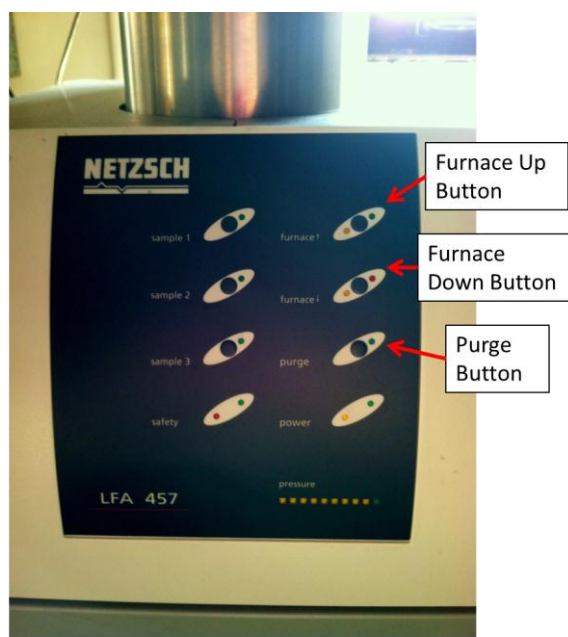

Figure 8. Control panel on the LFA 457.
- Open the furnace by simultaneously holding the side safety button (see Figure 6) and the furnace down button on the front display panel (see Figure 8).
- Raise furnace by pressing the safety button on the side and the furnace up button on the front control panel (see Figure 6 and Figure 8).
- Hit the purge button on the LFA 457 front control panel (see Figure 8).